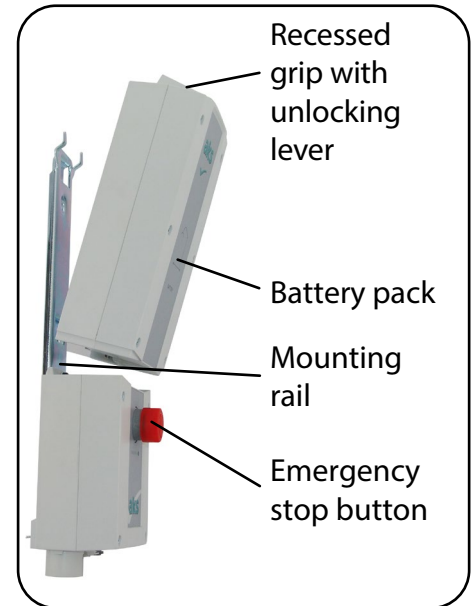

Fig. 8.7.01 - Battery pack
2. Reach into the recessed grip on the battery pack from above and pull the unlocking lever up with your fingers (Fig. 8.7.01).
3. At the same time, tilt the battery pack slightly away from the mounting rail and then pull it upward out of the mounting (Fig. 8.7.01).